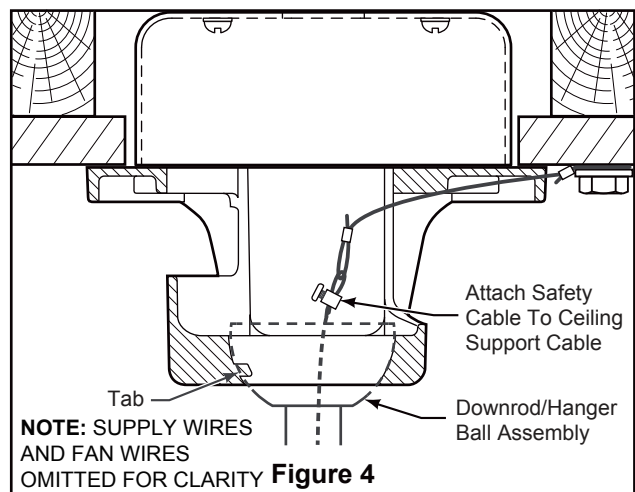

Figure 4
4. Carefully lift the fan and seat the downrod/hanger ball assembly onto the hanger bracket that was just attached to the outlet box. Be sure the groove in the ball is lined up with tab on the hanger bracket. (Figure 4)
5. Attach the safety cable to ceiling support cable. Slide cable clamp and washer onto safety cable (from fan). Place the end of cable through the loop of ceiling support cable. Pull as much cable through loop as possible. Feed end of cable into clamp hole and firmly tighten screw. (Figure 4)
3. Connect green wires from hanger bracket, hanger ball and ground from supply using wire connector. Connect black wire from receiver unit marked “AC IN L” to black supply wire using wire connector. Connect white wire from receiver unit marked “AC IN N” to white supply wire using wire connector. Connect white wire from receiver unit marked “TO MOTOR N” to white wire from fan using wire connector supplied with receiver unit. Connect black wire from receiver unit marked “TO MOTOR L” to black wire from fan using wire connector supplied with receiver unit. Lastly, connect blue wire from receiver unit to the blue fan light wire using wire connector supplied with receiver unit. (Figure 4)
Connect the 2 single-pin connectors from the LED assembly to the 2 single-pin connectors from motor assembly. (Figure 4)
- 4.** To set the remote code same positions as the receiver with a small screwdriver or ball point pen (neither included), slide dip switches firmly up or down. (Figure 4)